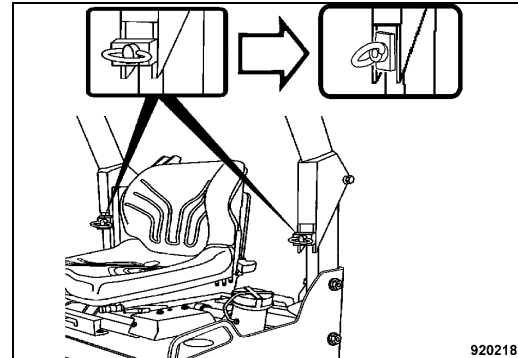

Fig. 111
- Fold down the foldable ROPS² for transport. Loosen the eye bolts (Fig. 111) and adjust the clamping plates vertically.